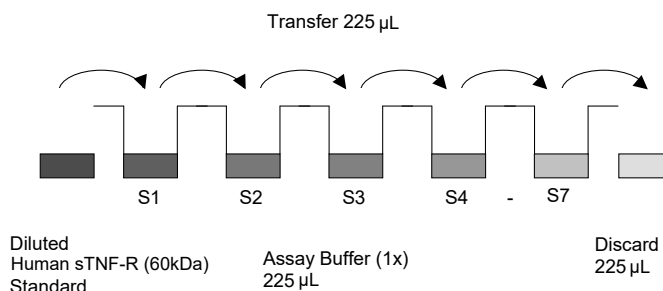

Fig. 5 Dilute standards - tubes.
5. Repeat serial dilutions 5 more times thus creating the points of the standard curve (see Figure 5).